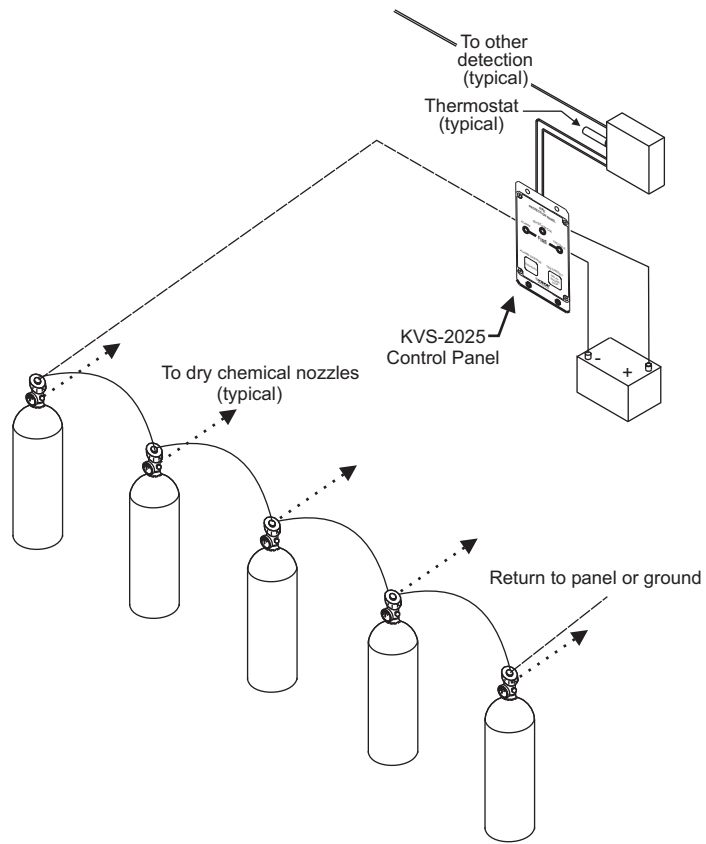

Figure 3-24. Example of Electrical Actuation, Series Firing, Using Protection/Control Panel
- The control head can be used in series for multiple cylinder firing (see Figure 3-24). In a 12 volt system, up to two actuators can be fired in series. In a 24 volt system up to five actuators can be fired in series, provided the overall releasing circuit resistance does not exceed 8.5 ohms.